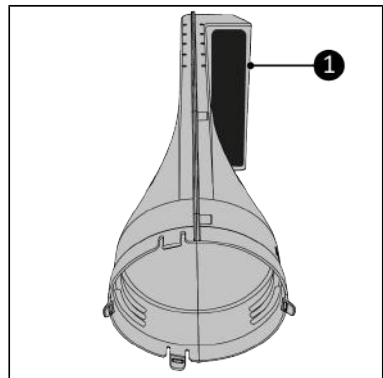

Figure 95.
3. Place the Way-out in front of you. Make sure the round opening is facing towards you (Figure 95).
4. Make sure the air outlet (Figure 95, pos. 1) is pointing to the right.